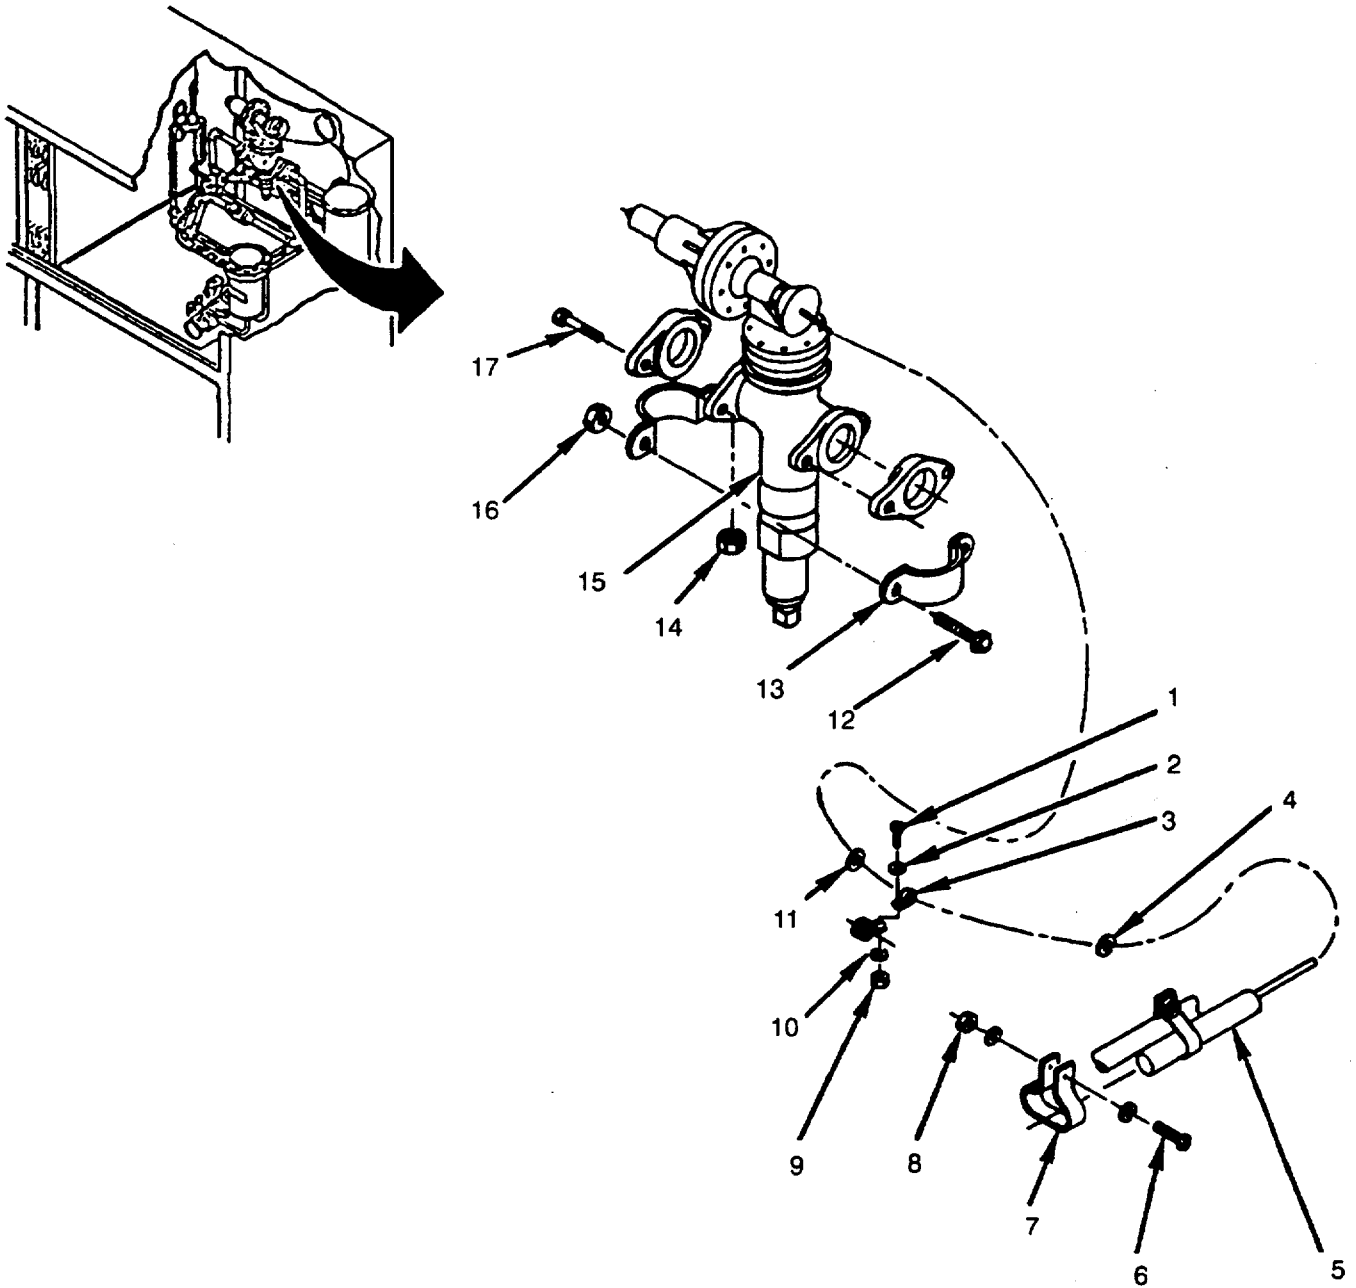

Figure 6-14. Pressure Regulator Valve
1. Remove two screws (1), locknuts (9), eight flat washers (2) and (10), and two clamps (3) from refrigerant lines (see Figure 6-14).
2. Loosen screw (6) and locknut (8) in circulating air out RFI filter compartment (para 4-41).
3. Remove sensing bulb (5) from clamp (7).
4. Pull two grommets (4) and (11), and sensing bulb (5) up to evaporator compartment.
5. Remove two bolts (12), nut (16), and four clamp halves (13).
6. Remove four bolts (17) and nuts (14).
7. Remove valve body (15).